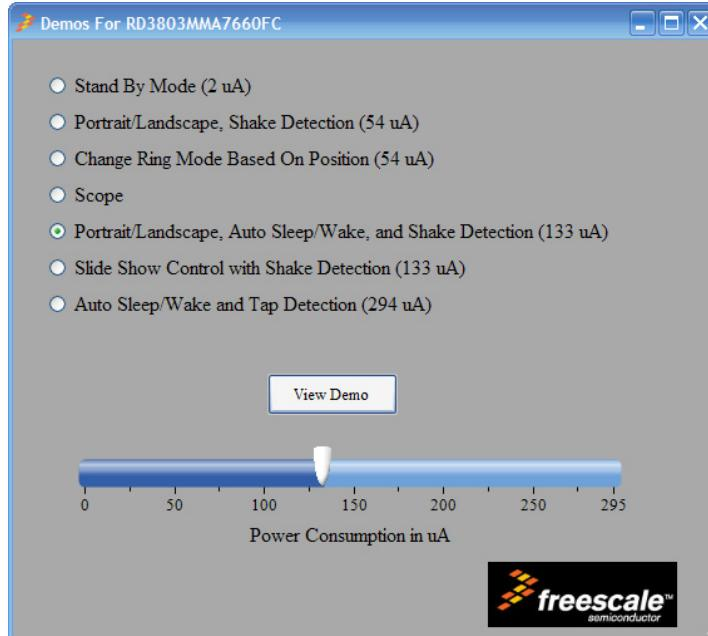

Figure 9. Demos for RD3803MMA7660FC
3. The "Demos for RD3803MMA7660FC" screen will appear (Figure 9). The following section will describe in detail all the demos available on the GUI.